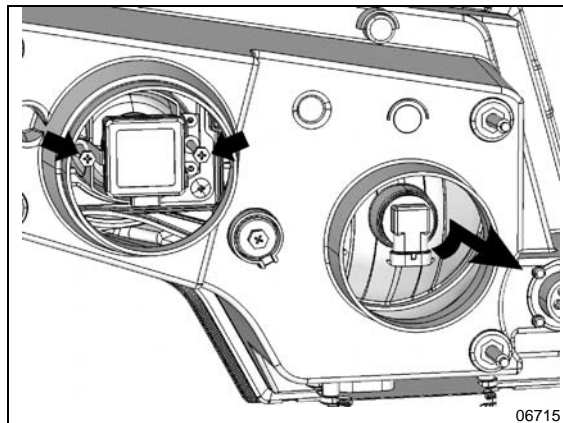

FIGURE 24: HEADLIGHT ASSEMBLY REAR VIEW
5. HALOGEN: turn the bulb base counterclockwise. XENON: Unscrew the Phillips head screws indicated by arrows, pull the retainer and bulb out (FIGURE 24).